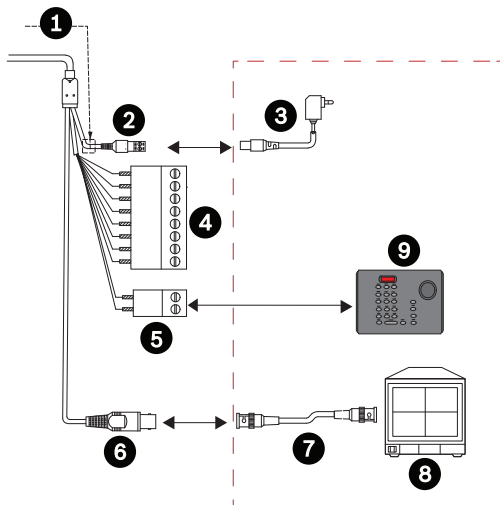

Figure 6.1 Typical wiring configuration
2. Use the template (refer to *Figure 6.1*, item 1) to mark the locations of the four screw holes and the cable conduit.
5. Insert the four plastic anchors (item 2) inside the pre-drilled holes.
7. Remove the dome cover (item 6) from the camera base (item 3).
The following table shows the terminal connections for the 2-pin terminal block RS-485 connections (see *Figure 6.1*, item 5):